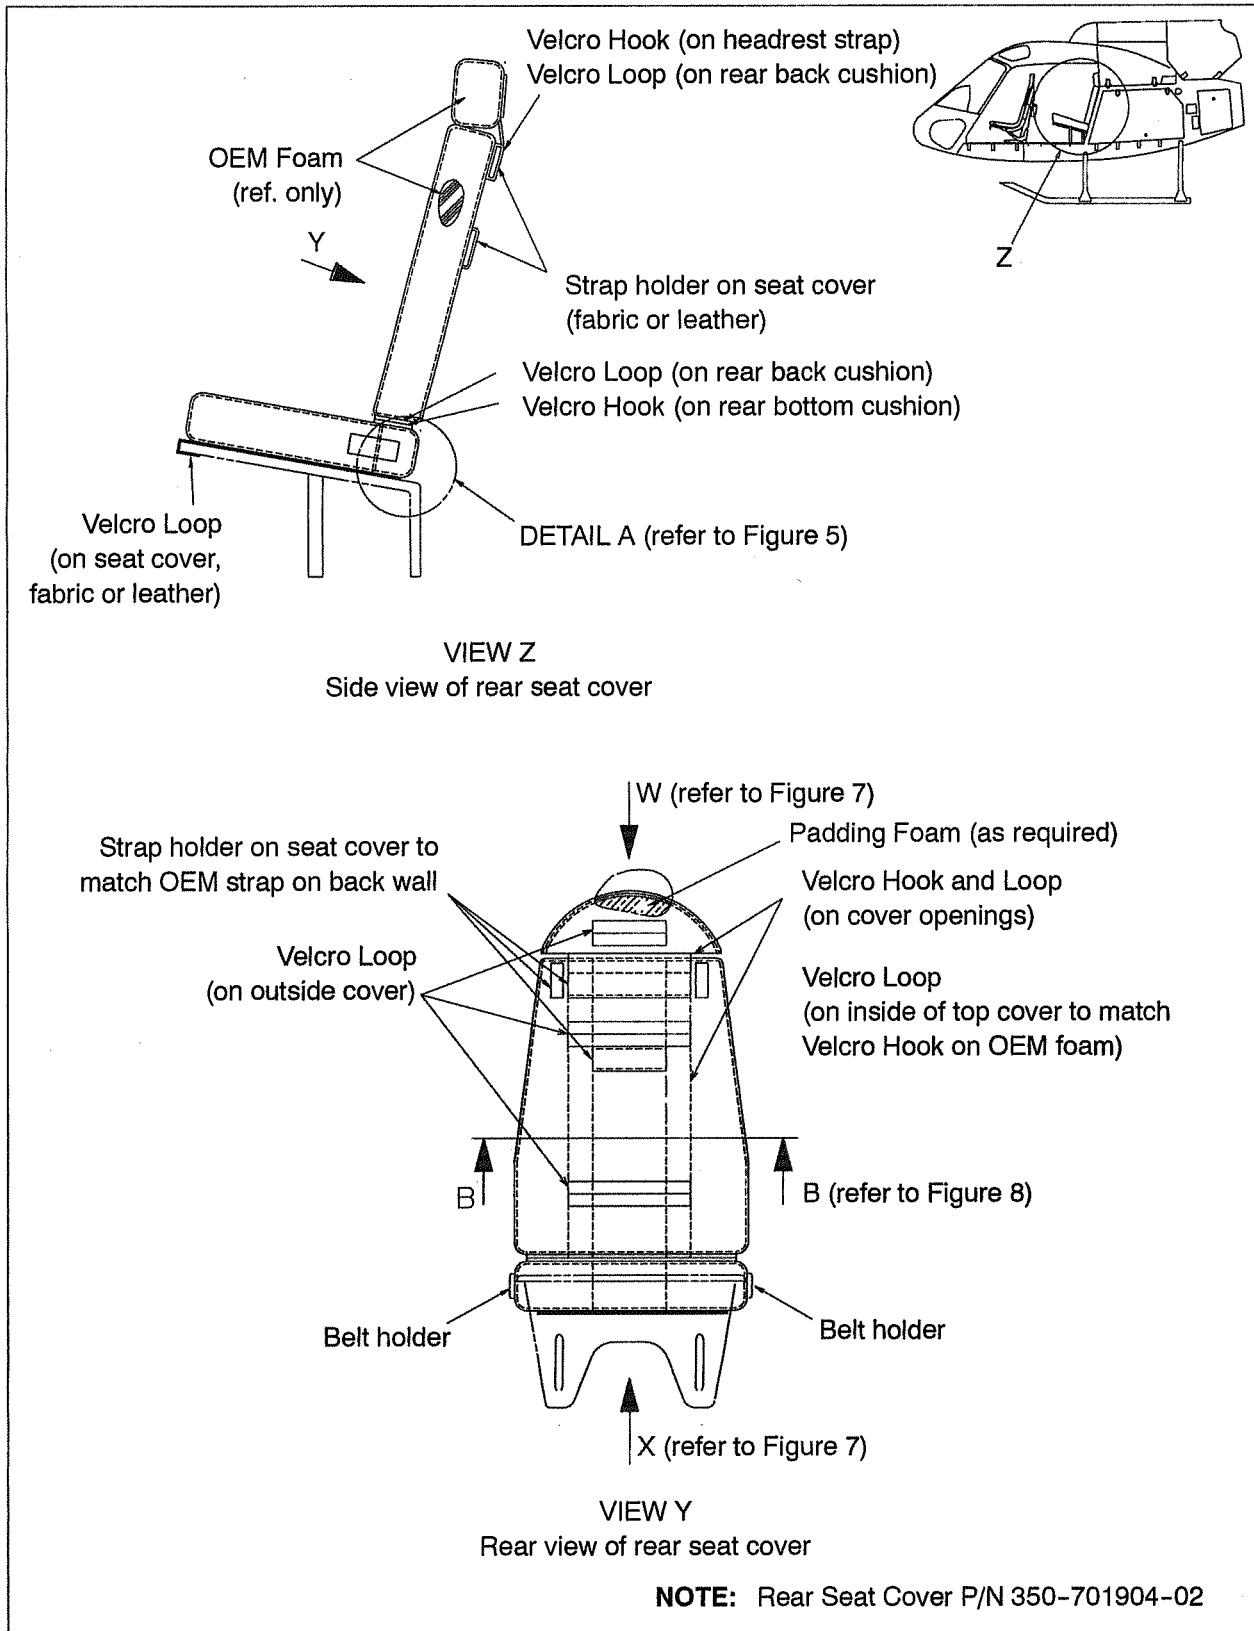

Figure 4 Rear Seat Cover Details for original seat style (Sheet 1 of 2)
- 2) REAR BACK AND BOTTOM SEAT COVERS (Refer to Figure 4)